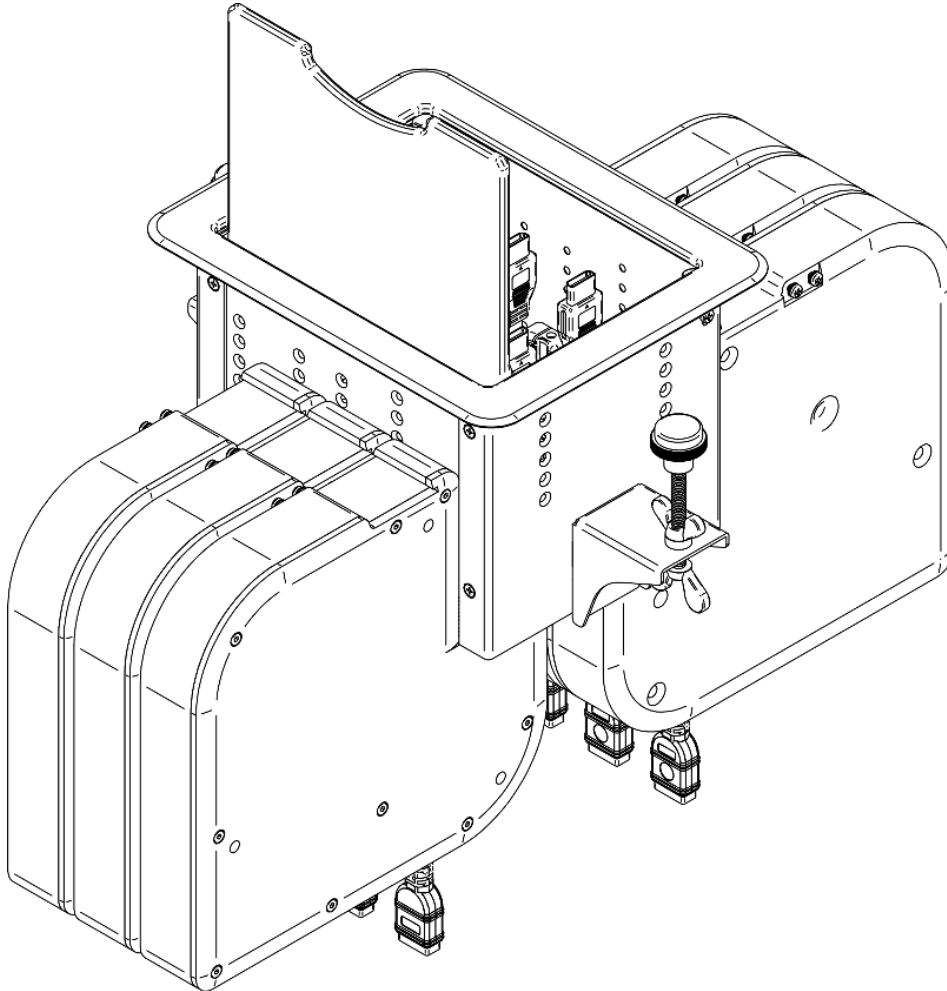

Figure 7: Attaching Several KRT-3 Units to TBUS with Regular (Non-Retractable) Cover
- For TBUS units with a regular cover (for example, the Kramer **TBUS-1AxI**), attach the **KRT-3** units side-by-side to the front and rear side of the TBUS enclosure (Figure 7).